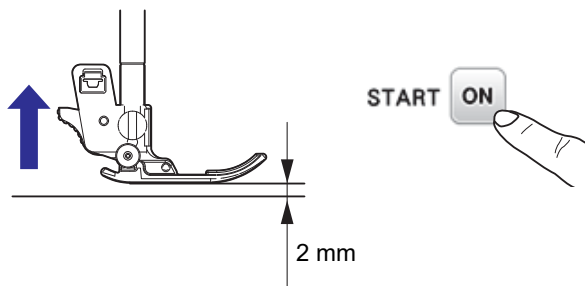

Fig.3
8. Press the **ON** button next to "Start" on the screen (2nd page). (Fig.3)